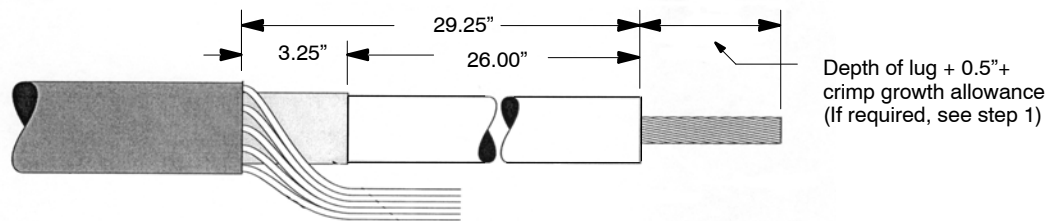

Figure 1
1. Prepare cable using dimensions shown in Figure 1. **Be sure to allow for depth of terminal lug plus 0.5" plus crimp growth allowance. If a shear head bolt lug is used, additional exposed conductor is not required.**